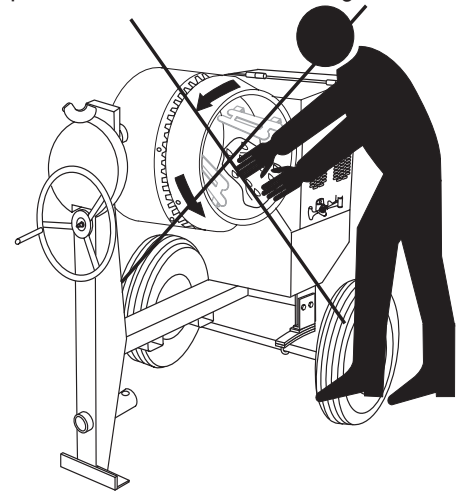

Figure 21. Filling Mixing Drum
- Placing the shovel all the way inside the drum (Figure 21) will cause the shovel to strike the blades. This condition will make the shovel rotate, and could cause injury to personnel. **NEVER** place hands inside the mixing drum while it is rotating.